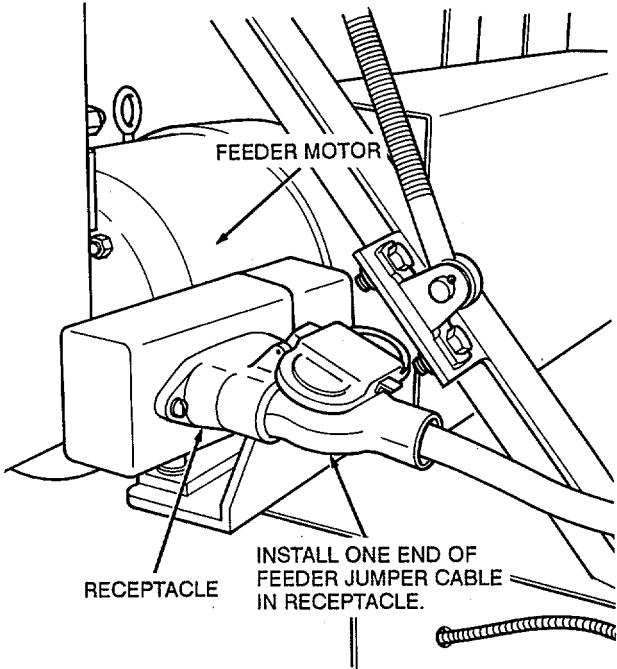

Figure 13. Feeder jumper cable installed on motor.
- k. Connect the feeder jumper cable to the feeder motor (fig. 13).
- c.* Remove the feeder jumper cable from the feeder motor in reverse of the instructions on figure 13.